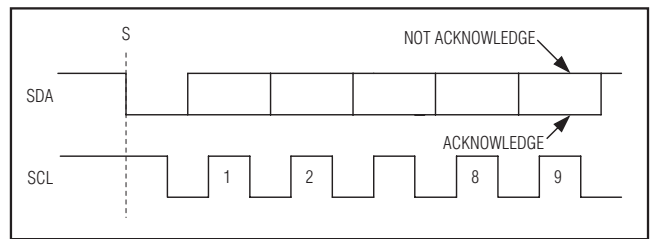

Figure 6. Acknowledge Bits
Successful data transfers are acknowledged with an acknowledge bit (A) or a not-acknowledge bit ( $\bar{A}$ ). Both the master and the MAX1036-MAX1039 (slave) generate acknowledge bits. To generate an “acknowledge,” the receiving device must pull SDA low before the rising edge of the acknowledge related clock pulse (ninth pulse) and keep it low during the high period of the clock pulse (Figure 6). To generate a “not acknowledge,” the receiver allows SDA to be pulled high before the rising edge of the acknowledge related clock pulse and leaves it high during the high period of the clock pulse.